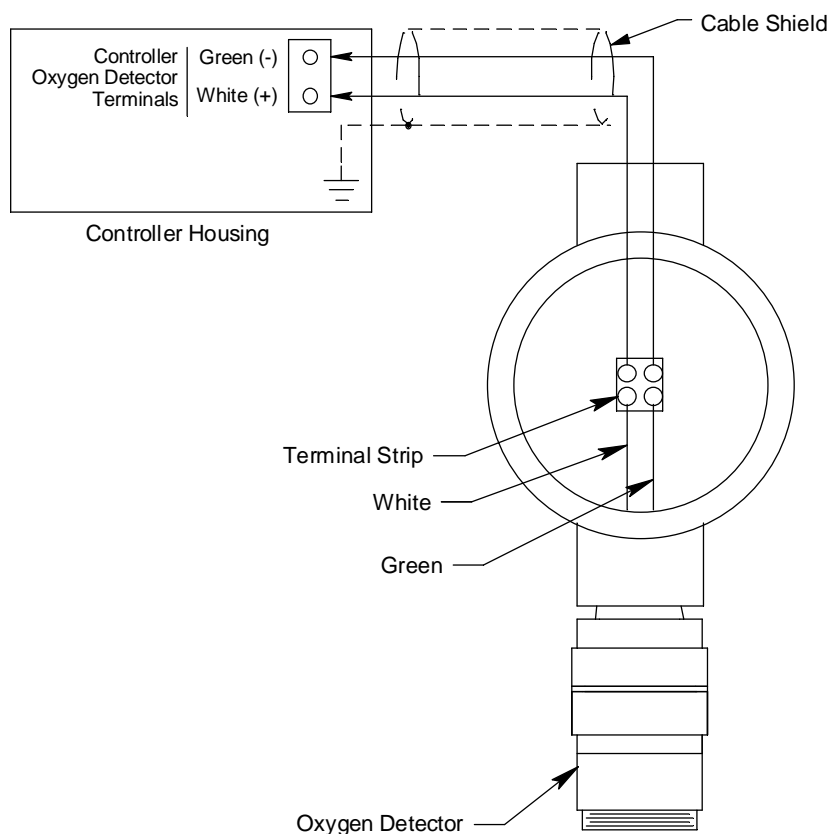

Figure 3: Wiring the Oxygen Detector to a Controller
8. Connect the wires to the applicable controller terminal strip as shown in Figure 3 above. See the controller operator's manual and the controller's detector head specification sheet for wiring information specific to a controller.